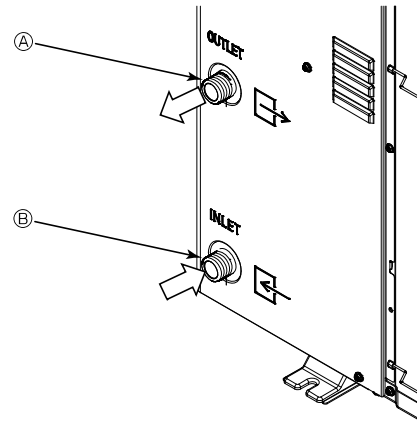

Fig. 6-1
### 6.1. Water piping connection (Fig. 6-1)
- Inlet and outlet pipes position is shown on the Fig. 6-1.
[Fig. 6-1]